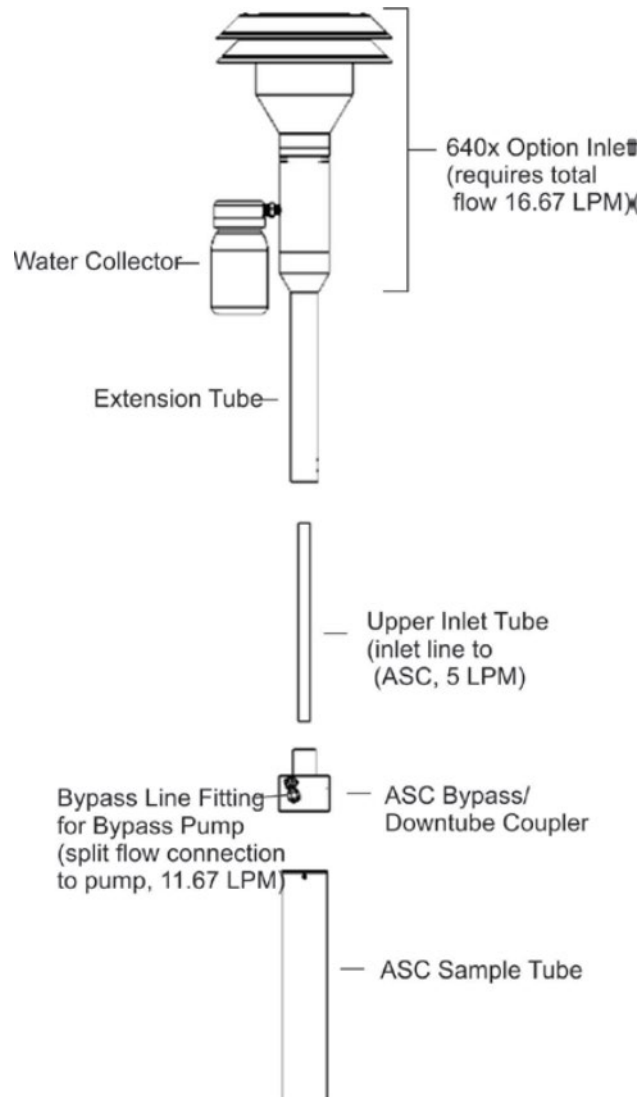

Figure 24. 640x Inlet and ASC Assembly
4. Assemble the inlet and the ASC as depicted in Figure 24, ensuring the parts fit snugly with no gaps. Note that if the instrument is to be installed in a shelter with roof penetration, leave the inlet with the water collector off for the time being.